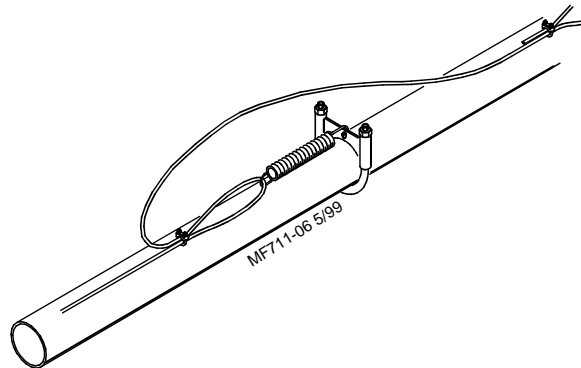

Figure 7.
6. There is not enough room between the feed hopper and the first feeder pan to attach and stretch the spring. Install the spring in between the first and second pan after the hopper. Then route the cable back to the first pan and attach to the feed tube cable assemblies. See **Figure 7**.